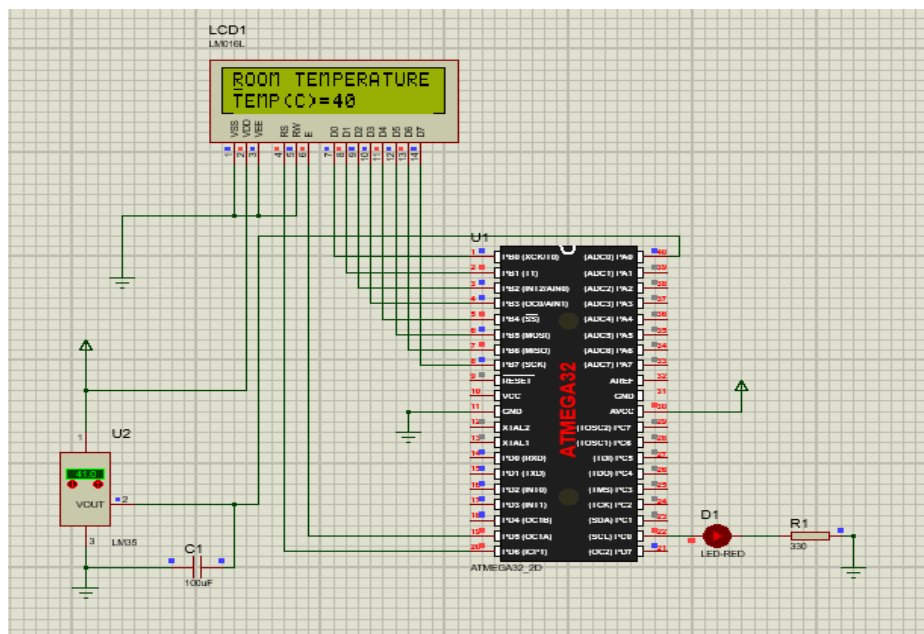

Figure 3.2. 3 Proteus Circuit Diagram of Room Temperature Control Fan
- Proteus circuit diagram is given above (figure 3.2. 4).